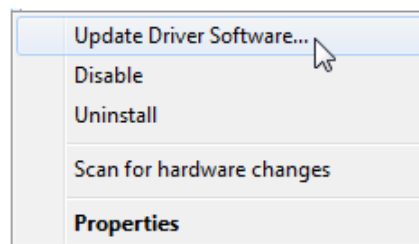

Figure 25. Update Driver Software Option
2. From the resulting contextual menu, select *Update Driver Software* (see Figure 25).